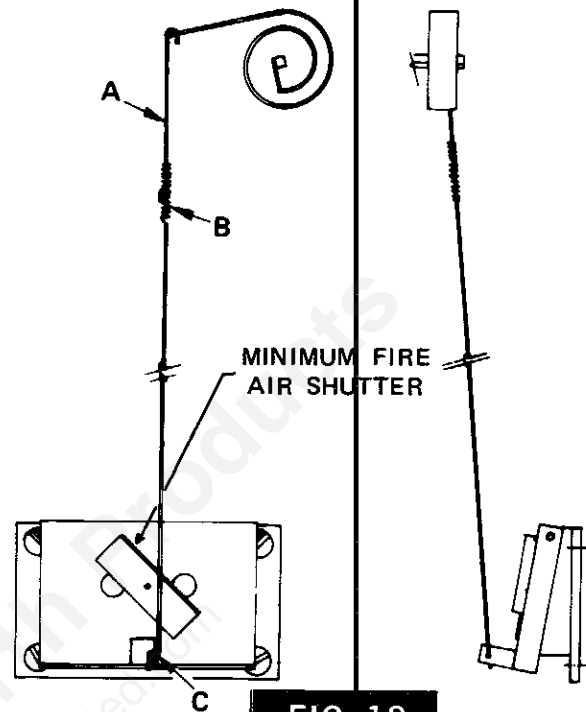

FIG. 18
- A. To increase the amount of heat at a "HIGH" setting, adjust the wire linkage to increase the draft damper opening (Fig. 18).
The burning rate at the low setting can be further adjusted by opening or closing the minimum fire air shutter (Fig. 18) on the draft control door.